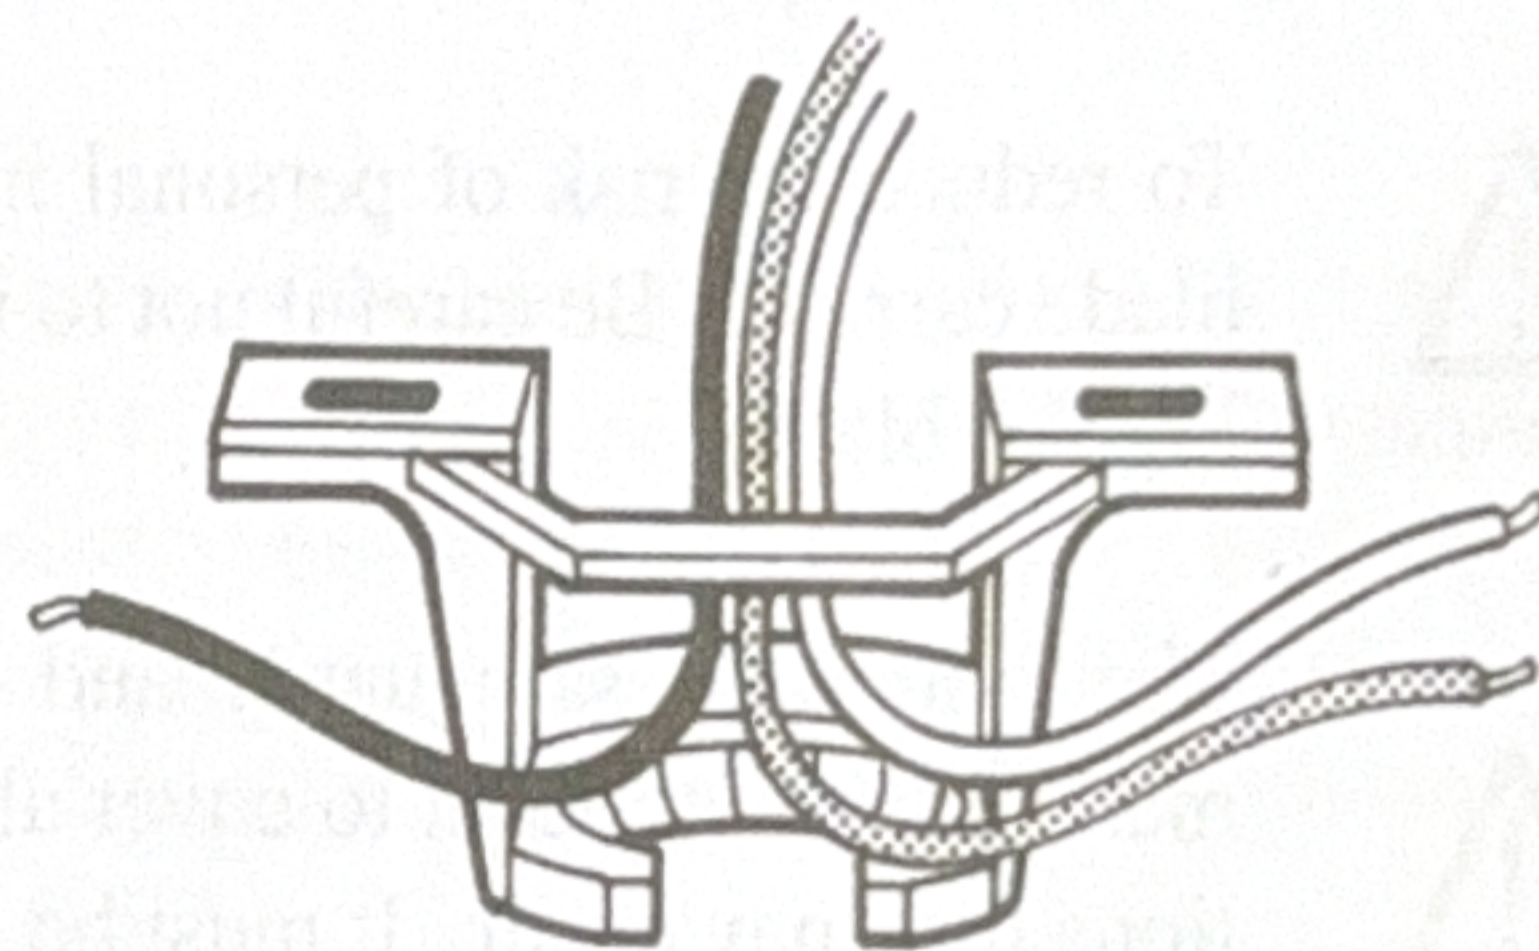

Fig. 2
*Pull the electric wires in the junction box down through the mounting bracket and then bend them up and back out of the way. This will leave the mounting bracket open and ready to receive the ceiling fan (see figure 2).*